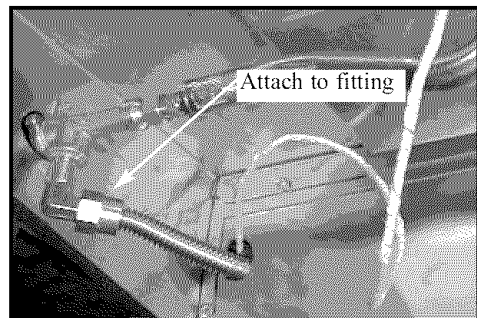

Fig. 21
3. Attach the Flex Line coming from the side of the grill to the fitting on the bottom of the Side Burner. (See Fig. 21)